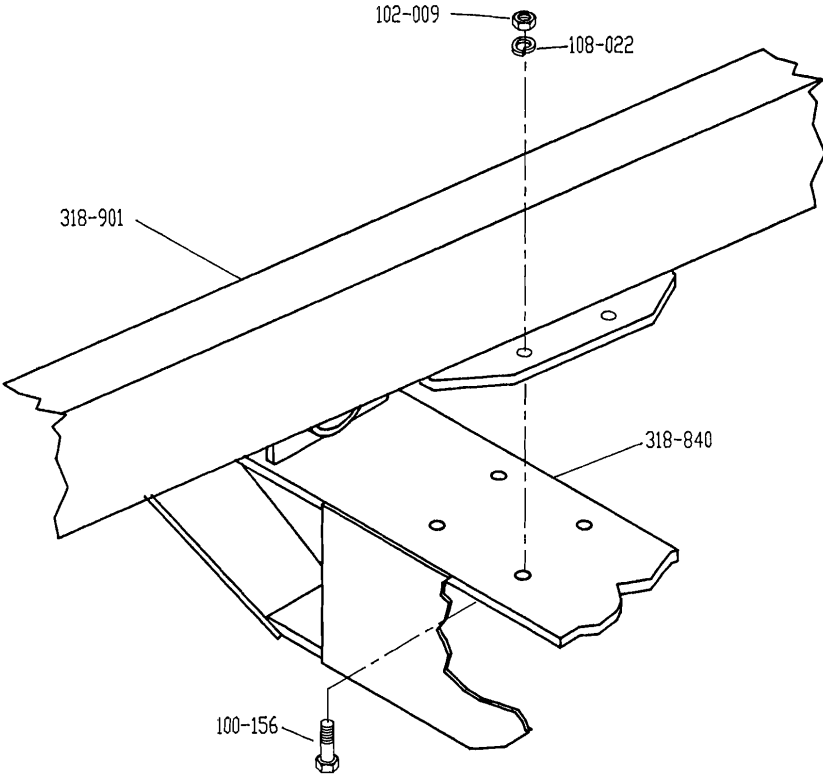

FIGURE 1: AXLE ASSEMBLY
2. Unbolt shipping axle and remove from underneath cart. Position permanent axle under frame and secure with eight $\frac{3}{4}$ " x 2" grade 5 bolts, lock washers and nuts. One side is shown in Figure 1. Tighten mounting bolts and torque accordingly. Be sure of tire/axle match for the particular grain cart size.